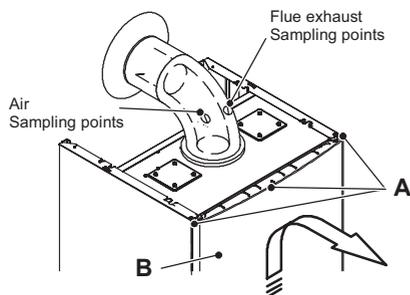

Fig. 9.1
- Loosen the three screws A (Fig. 9.1).
It is recommended that a combustion analysis check is made. Remove the plug as indicated in Fig. 9.1 and carry out combustion analysis check and adjustment if necessary as described in the section Gas valve-Adjustment of the Service manual.